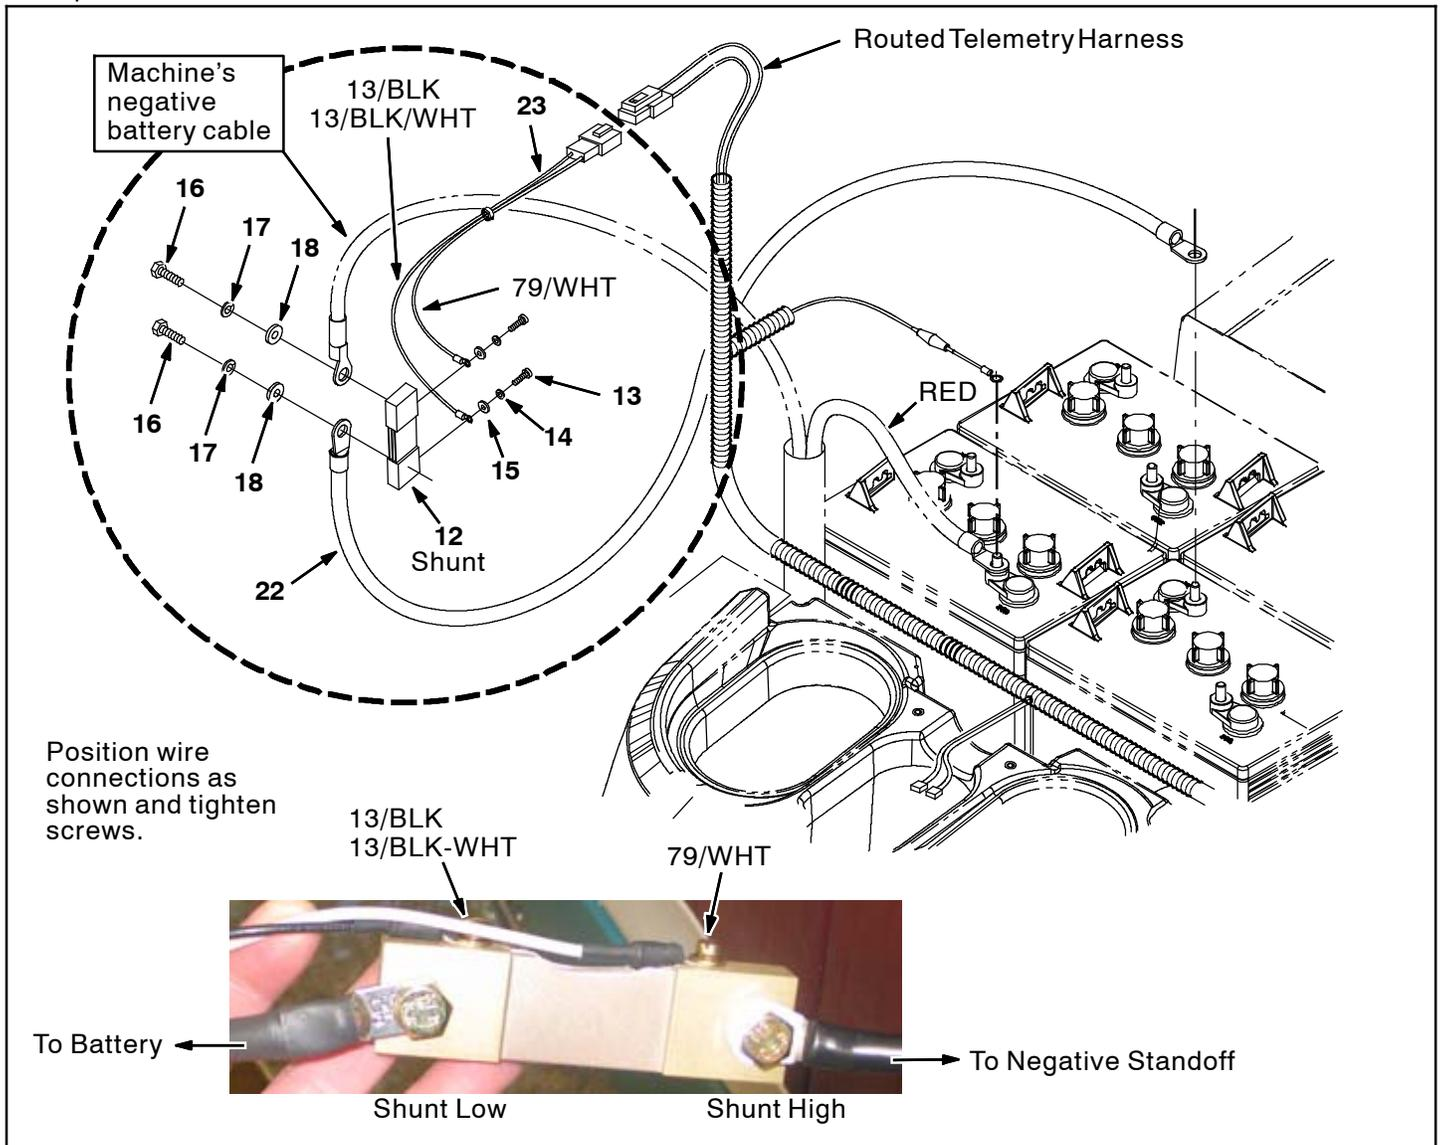

FIG. 19
21. Using the following hardware, connect battery cable (22), machine's negative battery cable and the small telemetry harness (23) to shunt (12) as shown (FIG. 19).